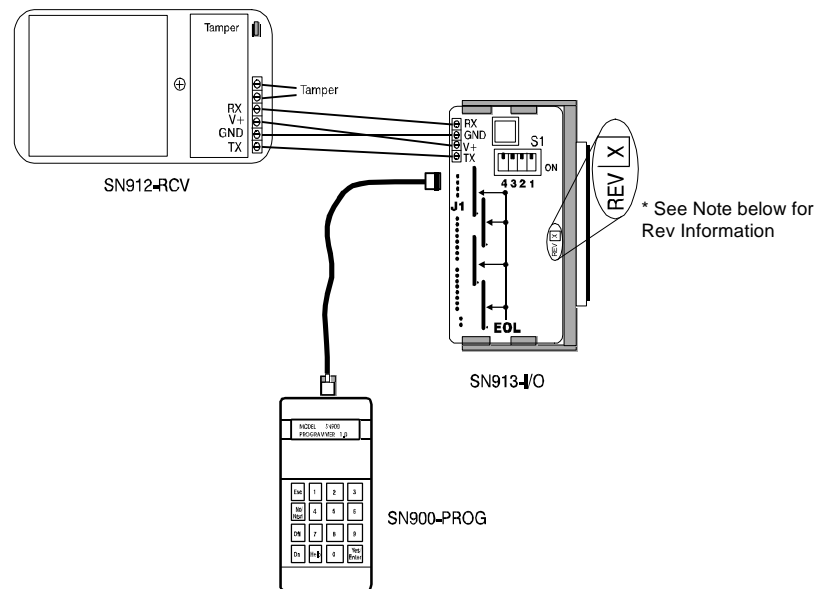

Figure 2 - Connecting the Programmer (multi-zone system)
The SN900-PROG RF Programmer is used to program and test all components within the SpreadNet family of products. The first part of the multi-zone system to be set up and programmed is the SN912-RCV RF Receiver and the SN913-I/O Interface Board. Both units must be programmed at the installation site. The SN912-RCV RF Receiver connects to the SN913-I/O Interface Board via a 4-wire Interconnect Cable. This cable carries data and power from the SN913-I/O Interface Board to the SN912-RCV RF Receiver. The SN912-RCV RF Receiver is programmed via the SN913-I/O Interface Board. Connect the Interconnect Cable (provided with the programmer) from the RJ12X (modular phone jack) on the Programmer to the 4-Pin Molex connector on the Interface Board as shown in Figure 2.
NOTE: SN913-I/O Rev. D and earlier requires setting of switch S1-1. To connect to the SN912-RCV Receiver S1-1 must be in the 'ON' position, or to connect to the SN913-I/O Interface Board S1-1 must be in the 'OFF' position. SN913-I/O Rev. E and later do not require setting switch S1-1. See Figure 2 for location of Rev level information.
- 1 - Using the Interconnect Cable (P/N 2-600-089-01) supplied with the Programmer, connect the SN900-PROG Programmer to the SN913-I/O Interface Board as described in **Section 3, Figure 2**.
NOTE: SN913-I/O Rev E and above does not require S1-1 to be switched for SN912-RCV or SN913-I/O programming. To determine which Revision you are using, refer to Figure 2 on page 11.
Press [Esc] to return to the "Scan Channel and Property Code" menu. Check all connections and ensure that the connections between the SN912-RCV RF Receiver and SN913-I/O Interface Board are good. Check the SN913-I/O DIP switch S1-1 (not required on Rev E and later, see Figure 2, page 11) to be certain it is in the "ON" position when scanning for the property code and channel. Then try re-scanning for a usable Channel/Property Code combination.
- 1 - Using the Interconnect Cable (P/N 2-600-089-01) supplied with the Programmer, connect the 4-pin molex connector to the SN913-I/O Interface Board and the modular plug to the RJ12X connector on the SN900-PROG Programmer. Place S1-1 on the SN913-I/O Interface Board in the ON position. (Not required on SN913-I/O Rev E and later. See Figure 2, page 11.) This disables the SN913-I/O Interface Board and allows the Programmer to communicate directly with the SN912-RCV RF Receiver.